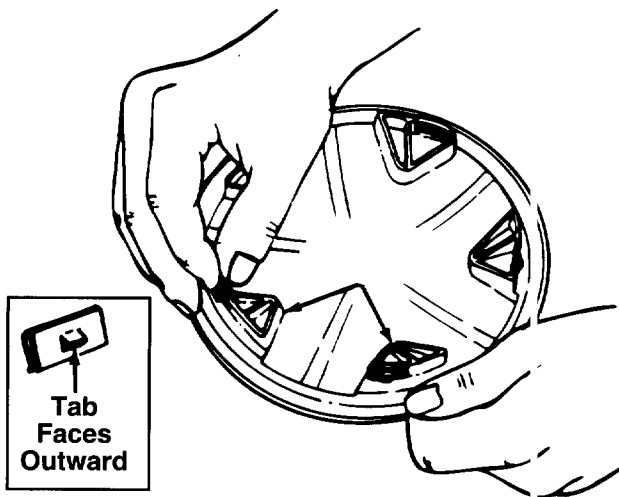

FIGURE 12.
- a. Slide five mounting clips on each hub cap as shown in figure 12, with the tabs on the mounting clips facing outward.